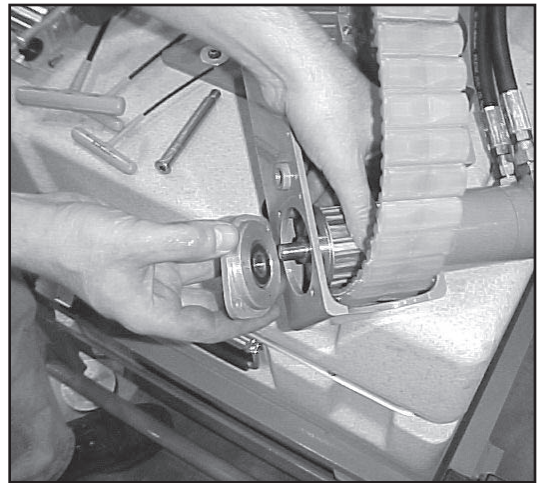

**Figure 8**
8. Slide track free from track idler assembly (Figure 8)